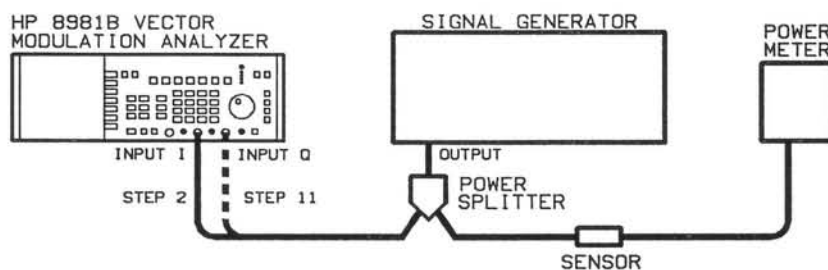

Figure 4-6. Bandwidth Test Setup
2. Connect the equipment as shown in Figure 4-6: